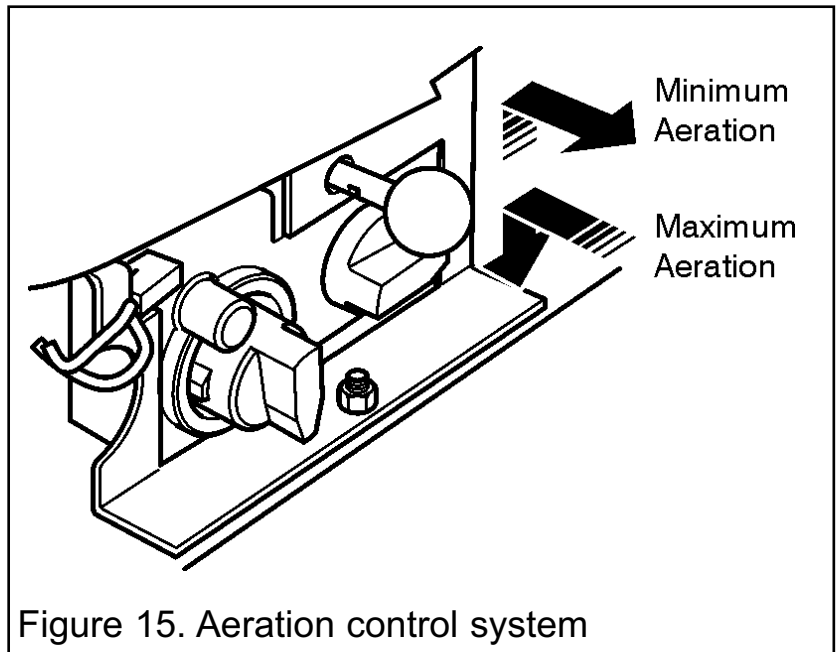

Figure 15. Aeration control system
1. Allow the appliance to warm up, (for at least fifteen minutes) in the fully aerated position, with the control lever pushed in to the locked position (See figure 15 ).